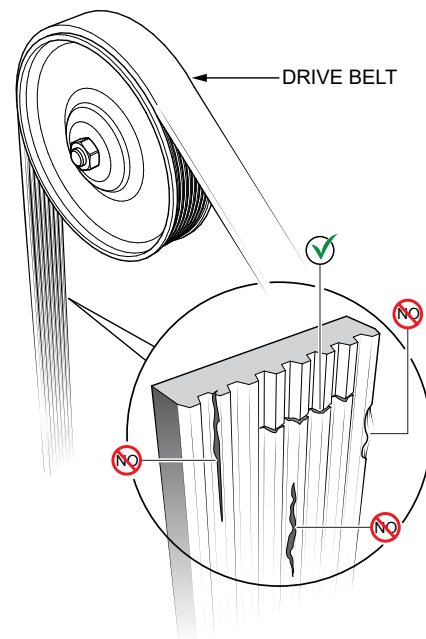

Figure 75. Drive Belt Inspection
1. Inspect the drive belt (Figure 75) for damage and wear. Horizontal cracks (across the belt) are acceptable. Vertical (direction of belt ribs) cracks that intersect with horizontal cracks are not acceptable.